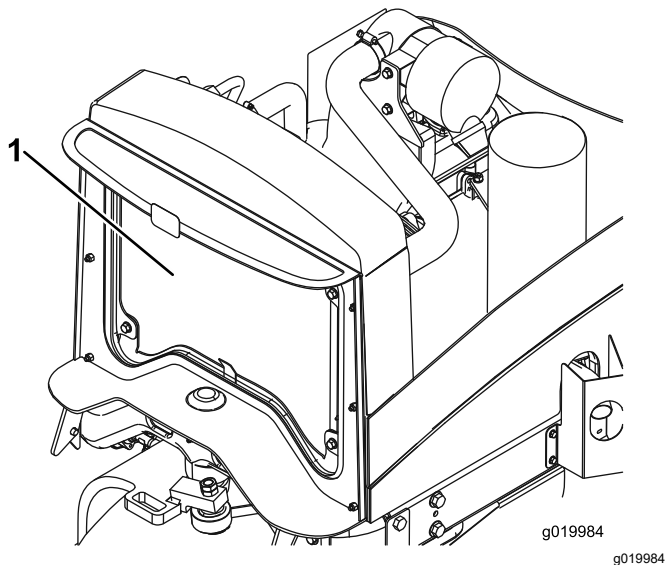

Figure 58
4. Clean both sides of the radiator thoroughly with compressed air (Figure 58).